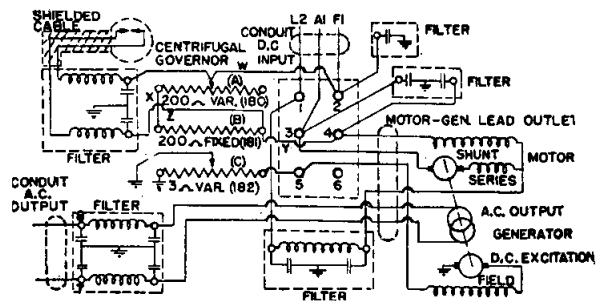

FIGURE 1.—Connection diagram A-5248.
(1) Equipments bearing serial numbers 1-297. These units, when leaving the factory, contained the original circuit consisting of speed governor, radio-frequency filters and a 200-ohm fixed resistor, "B", in series with the motor shunt field. Connections are shown in drawing A-5248, Figure 1.